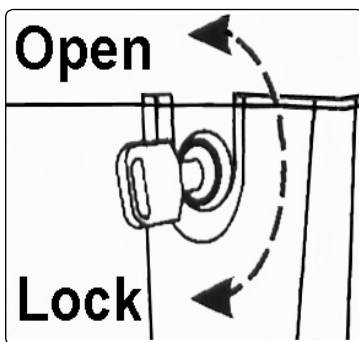
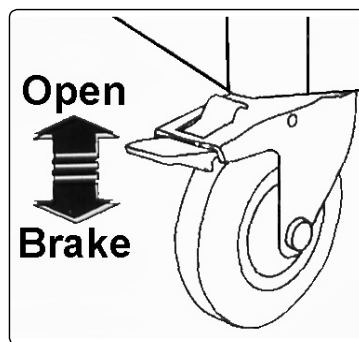

Fig.3
Fig.4
- 4.2. When moving the workstation, ensure that the drawers are closed and locked (Fig.3) to prevent accidental opening, release the brakes as shown in Fig.4 and move the workstation using the handles and maintain full control. When the workstation has been moved to the required location, lock the brakes.